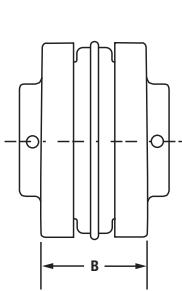

Figure 1 - B Dimension
4. Slide the loose flange on the shaft until the element is completely seated in the teeth of each flange. Position flange to dimension "B" (Figure 1) as shown in Table 1.